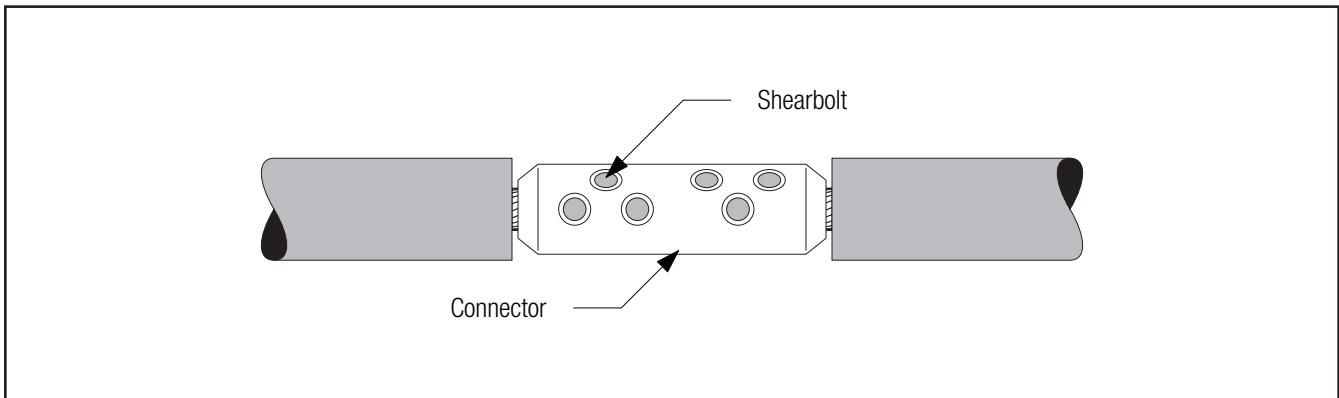

Figure 5
- 3.2 Install 3M™ Shearbolt Connector QCI 350-750 according to the instructions included with the connector (Figure 5).